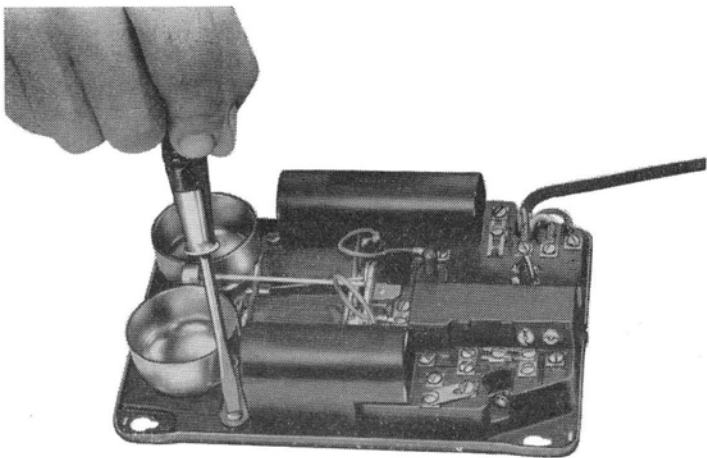

Figure 21 — Removing Ringer Screw
Step 2—Defective ringer. Replace ringer with one known to be good, and of the correct frequency and resistance (*see figure 21*).